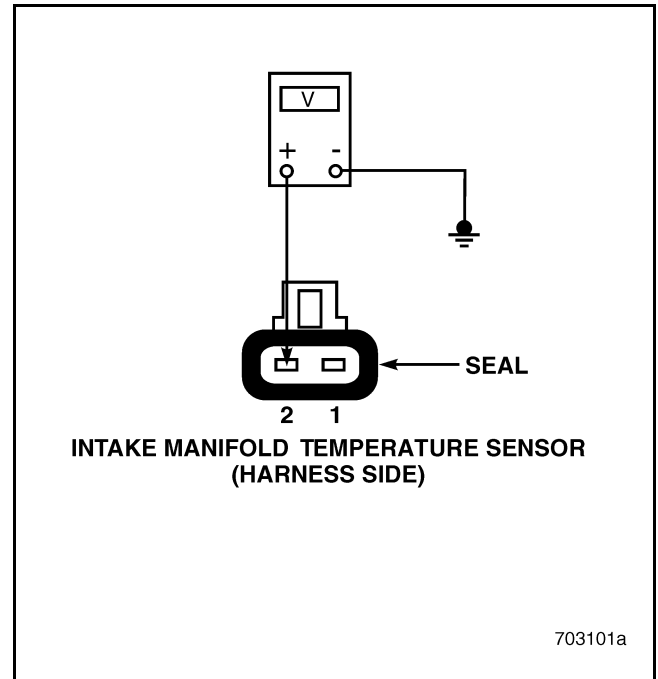

Figure 211
3. Measure the voltage between IMT Sensor harness connector pin 2 and a good ground (see Figure 211).